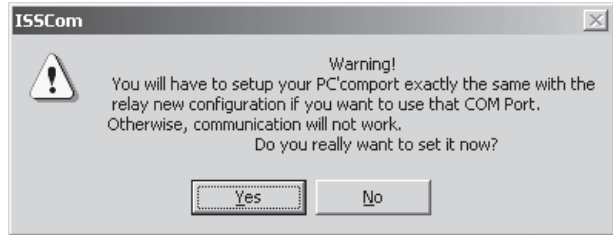

Figure 4-9 COM Port Settings Warning Screen
8. When the COM Port settings have been entered, then select **Save**. ISScom will display the COM Port Settings Warning Screen (Figure 4-9).